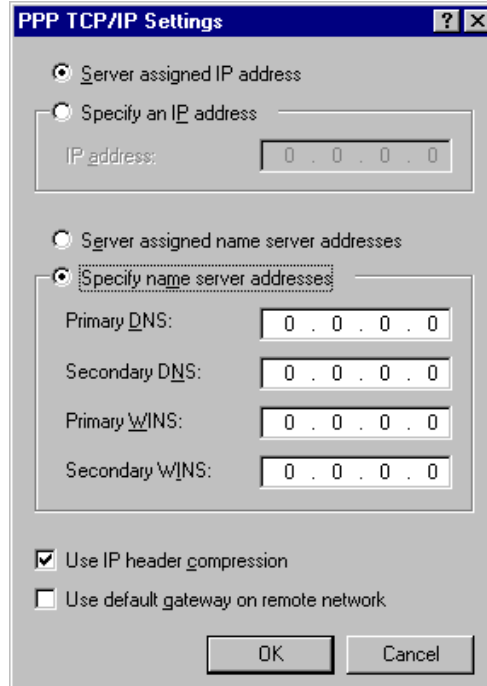

Figure 4-10. Define TCP/IP Settings
- Click the "TCP/IP Settings" button (see Figure 4-10). Select the "Server assigned IP address" option. The client will automatically get an IP Address from the HP TopTools Remote Control card. Check "Specify name server addresses" and make sure all DNS and WINS entry fields are set to zero (0). Uncheck "Use default gateway on remote network." Click OK.